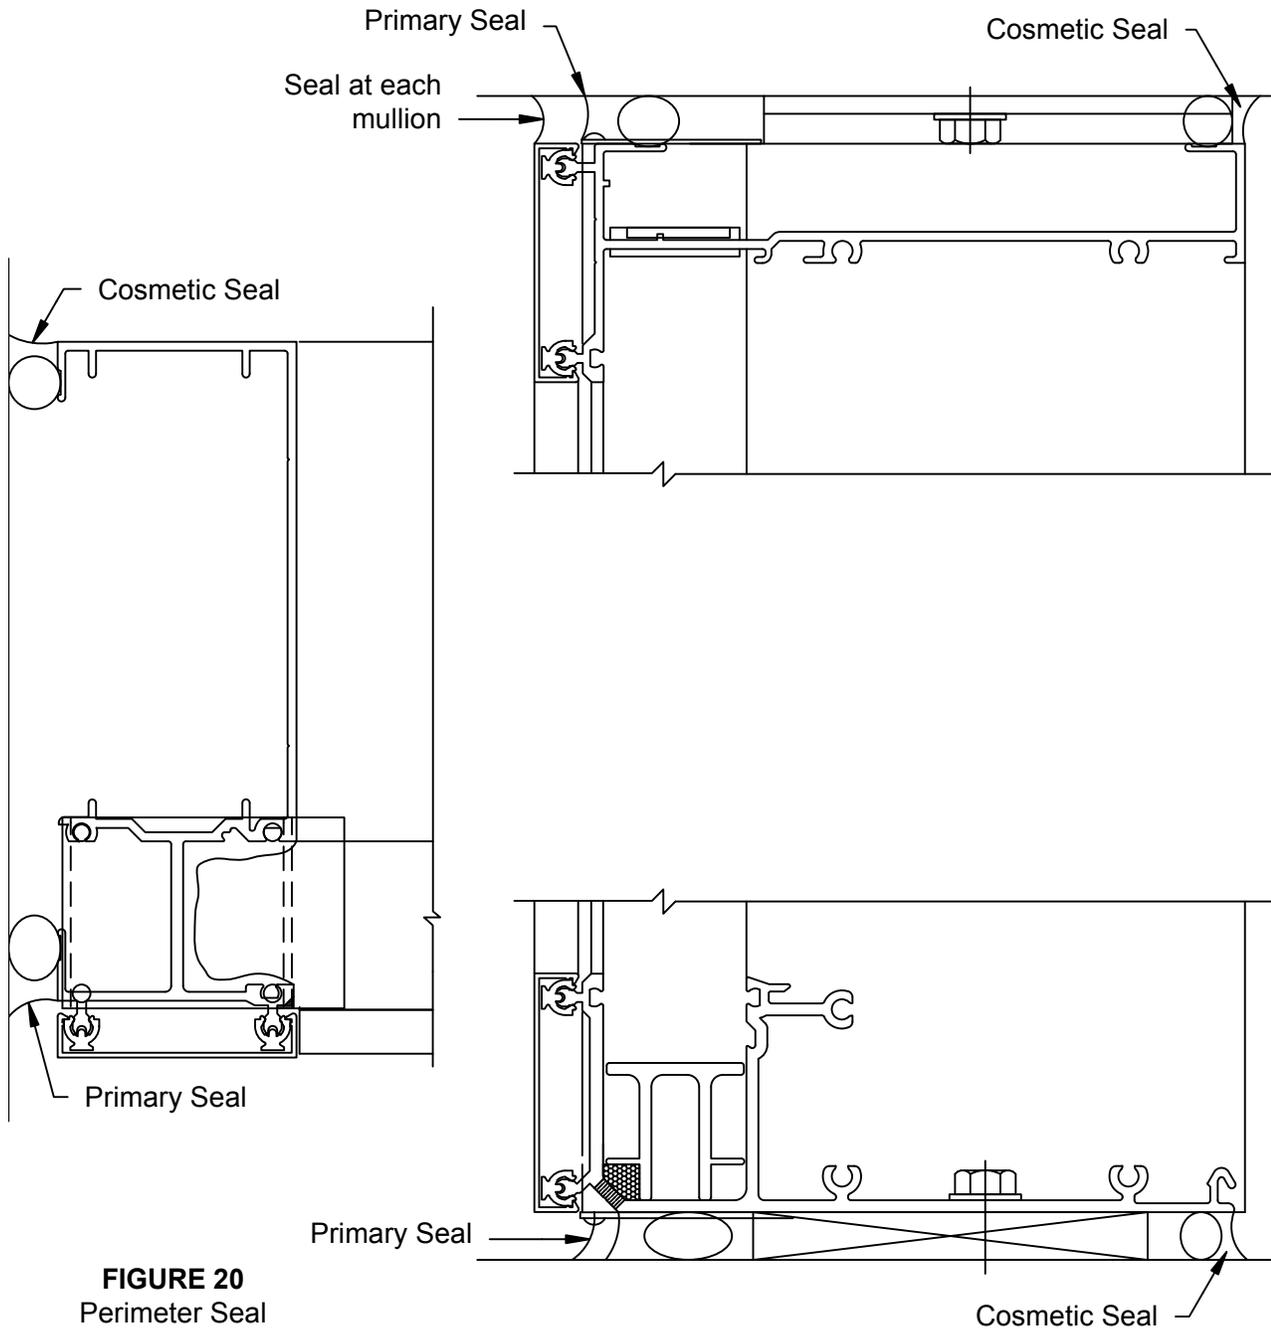

FIGURE 20
3.12 When all framing members are installed, apply perimeter seal. **SEE FIGURE 20.**